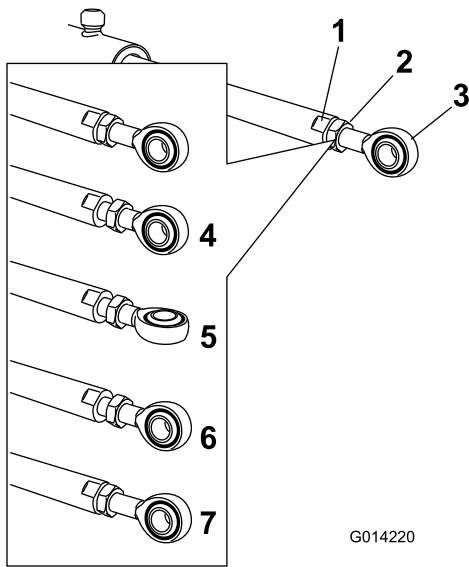

Figure 120
5. Hold the actuator rod at the flats of the rod using a wrench, then loosen the jam nut (Figure 120).
- Turn the rod end in the actuator rod to shorten or lengthen the extended actuator to the desired position (Figure 120).